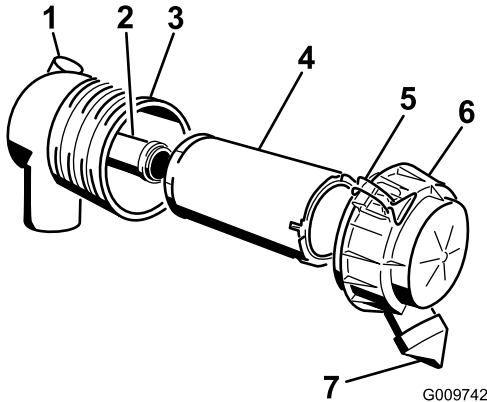

Figure 37
1. Gently slide the primary filter out of the air-cleaner body (Figure 37).
4. If you are replacing the safety filter, carefully slide the new filter into the filter body (Figure 37).
6. Install the air-cleaner cover with the side indicated as “UP” facing upward and secure the latches (Figure 37).